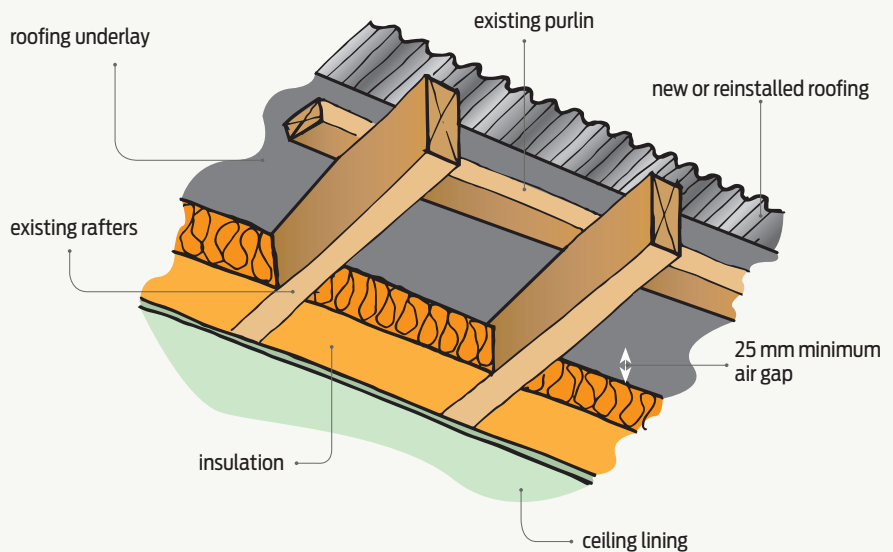

Figure 1 Retrofitting insulation into a skillion roof.
- Install from below by removing the ceiling lining – this is only suitable if metal roofing is installed over a roof underlay. A 25 mm air gap must be maintained between insulation and underlay (see Figure 1).